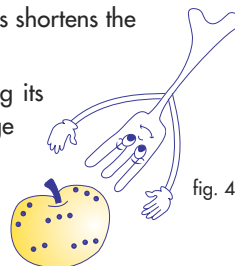

fig. 4
- 4) **Foods with a skin, shell or peel (e.g., apples, potatoes, tomatoes, frankfurters, fish) must be pierced with a fork or sharp knife in several points so as to allow steam to escape and prevent exploding (see fig. 4).**